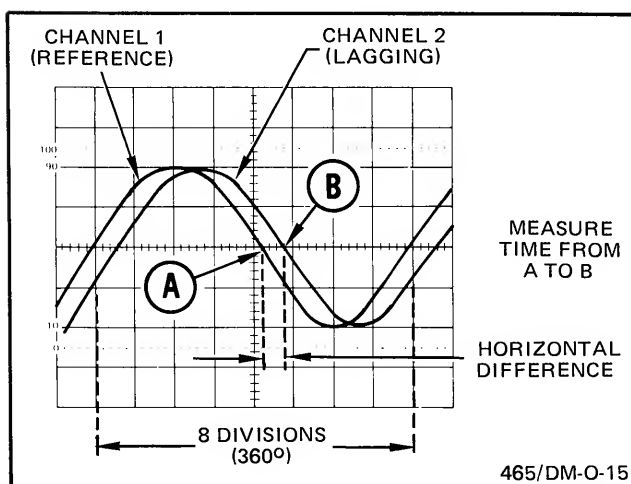

Fig. 2-11. Phase difference.
6. Turn the variable (X1-X10) SEC/DIV control until one cycle of the reference signal (Channel 1) occupies exactly eight divisions between the first and ninth graticule lines (see Fig. 2-11). Each division of the graticule represents 45° of the cycle ($360^\circ \div 8 \text{ divisions} = 45^\circ/\text{division}$).
Assume a horizontal difference of 0.6 division with a sweep rate of $45^\circ/\text{division}$ as shown in Fig. 2-11.